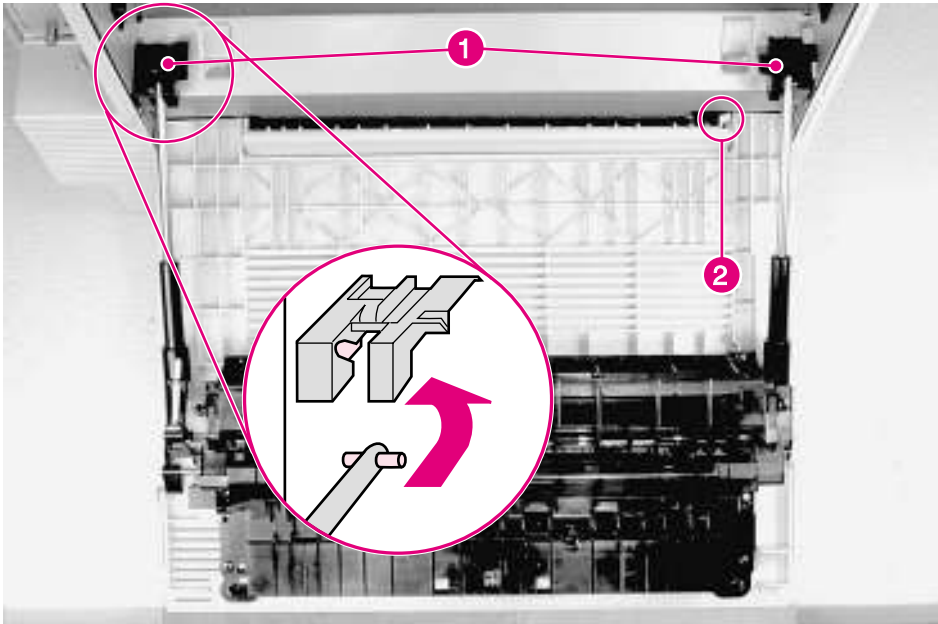

Figure 6-15 Diverter Door Assembly
- 1 Remove the Diverter Assembly access door (see figure 6-15).
- 1 Open the Diverter access door, and release the support struts (figure 6-15, callout 1) by sliding the strut ends forward and downward.
- 2 Rotate the door up to align the flat sides of the right hinge pin with the retaining slot (figure 6-15, callout 2), and lift upwards to release it from the retaining slot.